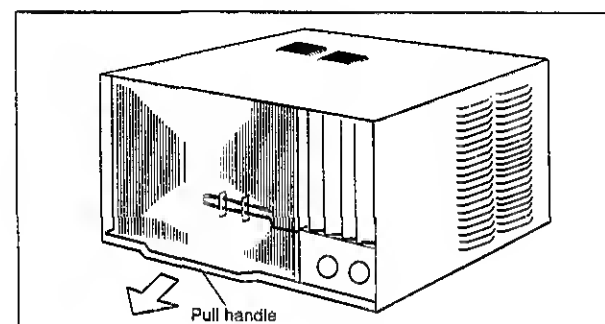

Fig 6
- F Grasp the pull handle at the front of the slide-out chassis and carefully slide the air conditioner out of the cabinet (Fig 6)
- C Grasp the pull panel at the front of the slide-out chassis and carefully slide the air conditioner out of the cabinet (Fig 6)